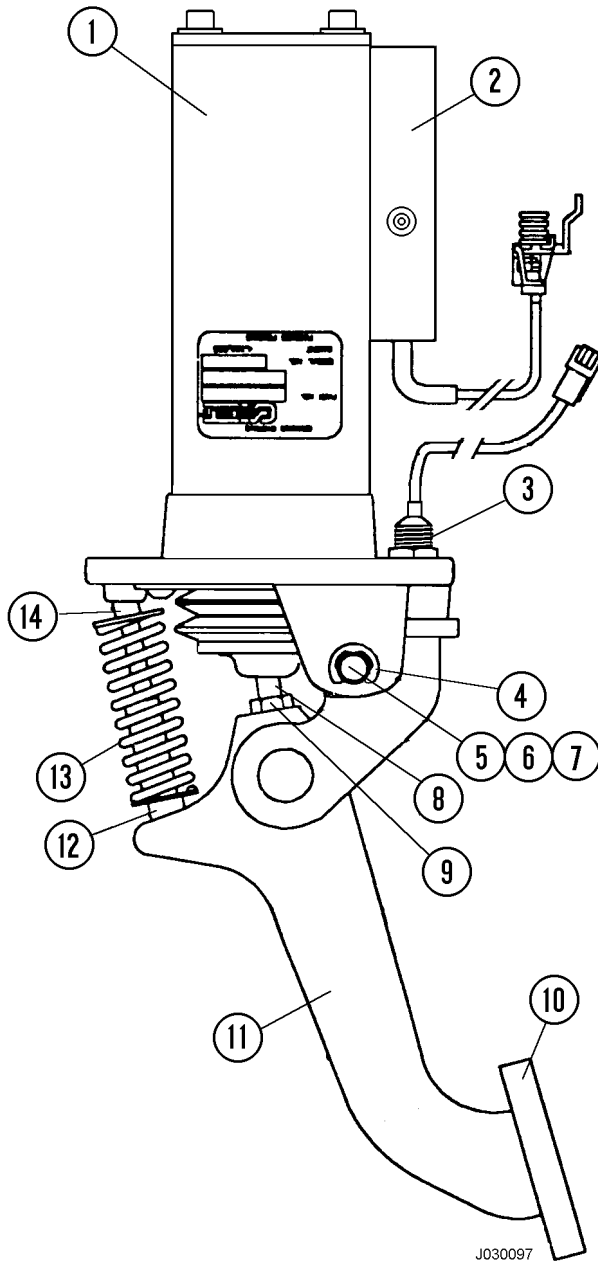

FIGURE 3-2. BRAKE VALVE ASSEMBLY
4. Remove the brake pedal actuator (11, Figure 3-2) by removing the retaining clips (4), then remove the pivot shaft (5) with a punch and hammer.